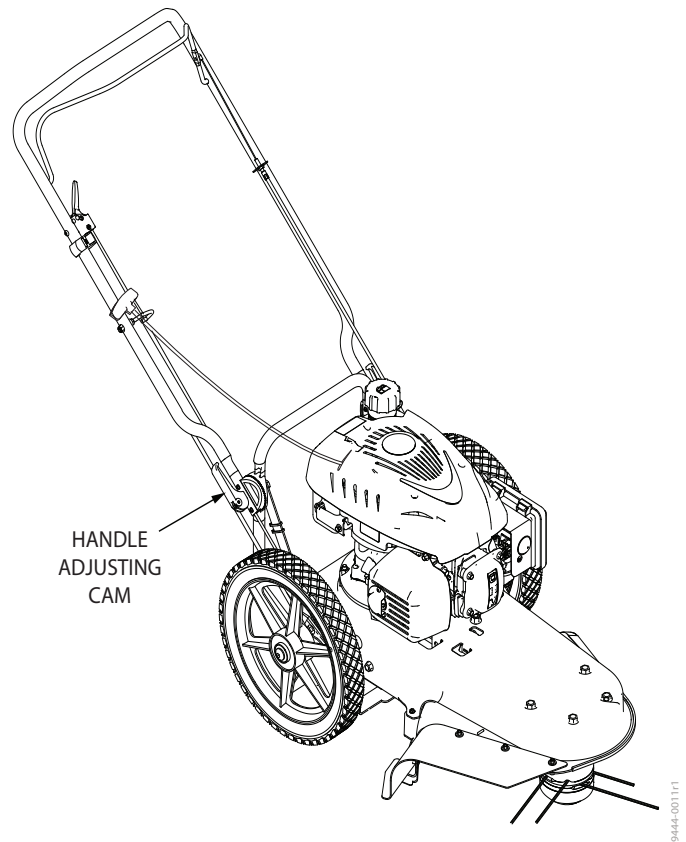

FIGURE 3: Adjusting the Handle Bars.
5. To attach the recoil start handle to the rope guide, twist the rope through the rope guide mounted on the right side of the handle. **SEE FIGURE 3.**